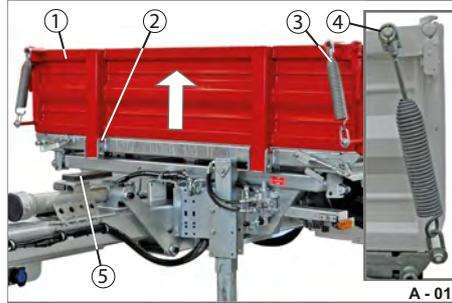
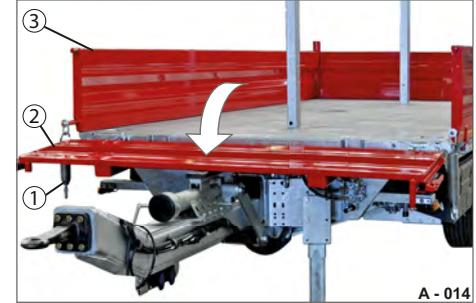

Fig. 15 Front platform gate, secured
Fig. 16 Front platform gate folded down
The front platform gate (Fig. 15/1) can be moved on the chassis.
- ▶ Remove the safety splint pin (Fig. 15/4) and pull the platform gate lifting spring (Fig. 15/3) from the upper pin.
- ▶ Lift the front platform gate (Fig. 15/1) into the posts (Fig. 15/2) and carefully fold them up to the front.
- ▶ Turn the front platform gate (Fig. 16/2) into a vertical position and lift it up so the front platform gate engages in the posts (Fig. 15/2).
- ▶ Close the side platform gates (Fig. 16/3).
- ▶ Attach the platform gate lifting springs (Fig. 15/3) and secure them with the safety splint pins.